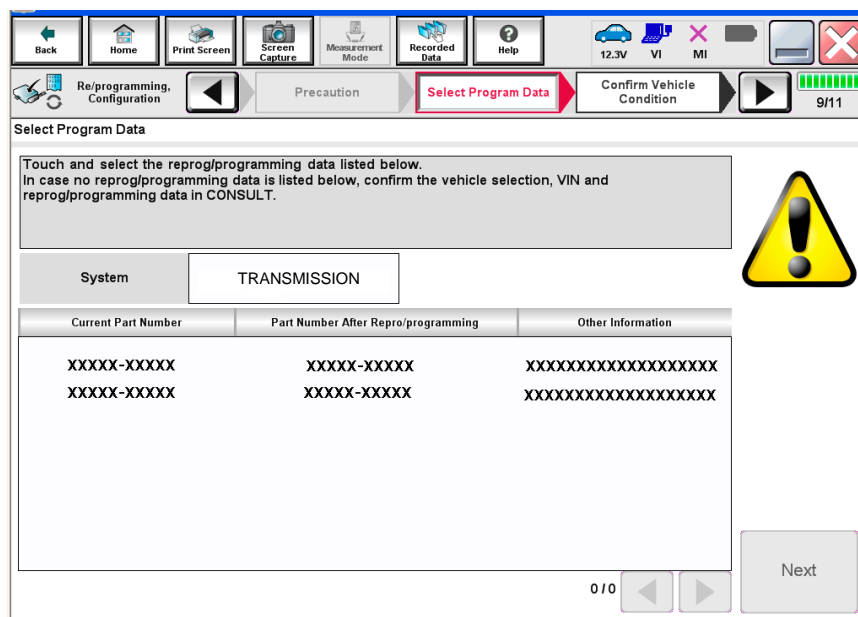

Figure 17
**NOTE:** If you get the screen in Figure 17 and it is blank (no reprogramming listed), it means there is no reprogramming available for this vehicle. Close C-III plus and refer back to ASIST for further diagnosis.